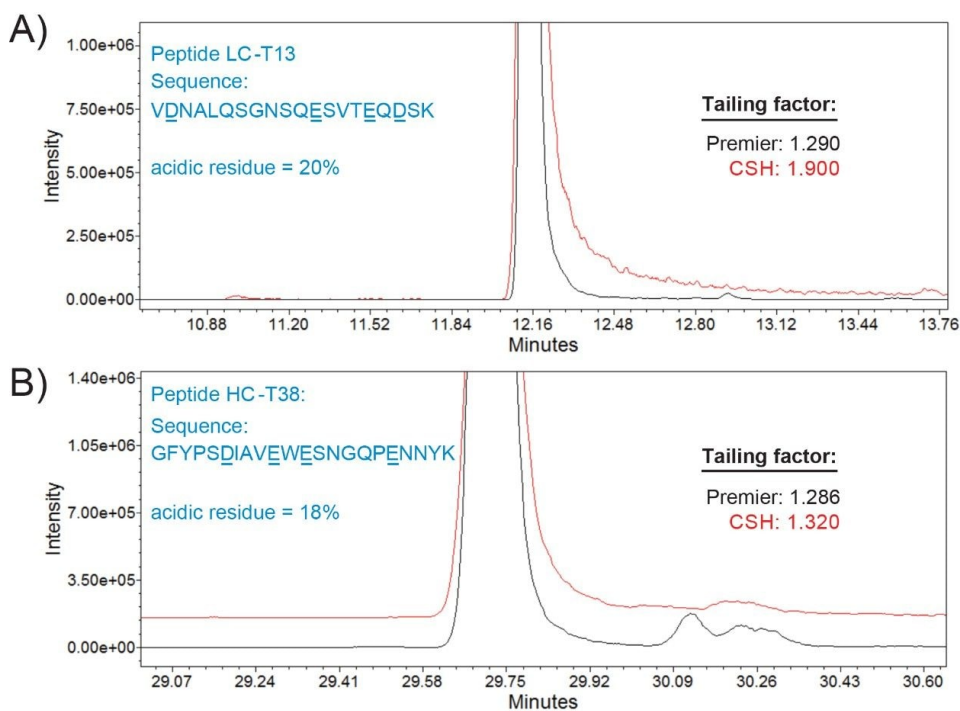

Figure 4: Evaluation of MaxPeak HPS Technology as a function of peak tailing for acidic amino acid containing peptide fragments A) LC-T13 and B) HC-T38.
In addition to the Arc Premier System's ability to deliver consistent and reliable results, users have the added benefit of MaxPeak High-Performance Surfaces (HPS) Technology to reduce undesired analyte/surface interaction. Waters MaxPeak Premier columns with MaxPeak HPS Technology provide a robust and effective means to mitigate undesirable analyte/surface interaction. This is demonstrated in Figure 4 in terms of peak tailing factor for two acidic peptides, light chain (LC)-T13 and heavy chain (HC)-T38. As shown in Figure 4A, the LC-T13 peptide exhibited over a 60% reduction in peaks tailing (1.29 vs. 1.90) when using the XSelect™ Premier Peptide C18 Column compared to the conventional stainless-steel column. The improved performance observed when using the MaxPeak HPS Technology is critical when trying to resolve impurities that are sensitive to analyte/surface adsorption. This is demonstrated for the HC-T38 peptide (PENNY peptide) which exhibited substantial tailing with the stainless-steel column that obscures the low-abundance impurity peaks eluting after it. When using the XSelect MaxPeak Premier Peptide C18 Column, these low-abundance peaks, identified to be deamidated forms of HC-T38, are both detectable and quantifiable. These results demonstrate the impact high-quality separations can have on peptide mapping assays and the value MaxPeak HPS Technology offers customers. The combination of system performance and system bio-inertness will lead to more robust assays that can be readily transferred and validated with increased confidence in data interpretation and less time spent at the bench.